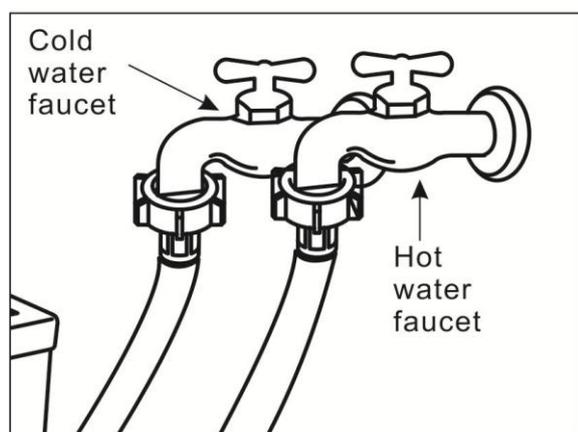
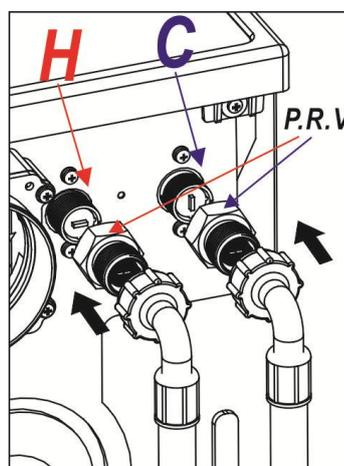

Fig.1
Fig.2
Please read the following steps carefully (Fig.1, Fig.2)
1. Connect the *straight* end of the hot-water hose to the hot-water faucet (Fig.1).
2. Connect the *straight* end of the cold-water hose to the cold-water faucet (Fig.1).
4. Connect the *L-shaped* end of hot-water hose to the inlet valve which has a red strainer. (Or connect to the pressure-reducing valve if necessary). (Fig.2).
5. Connect the *L-shaped* end of cold-water hose to the inlet valve which has a white strainer. (Or connect to the pressure-reducing valve if necessary). (Fig.2).